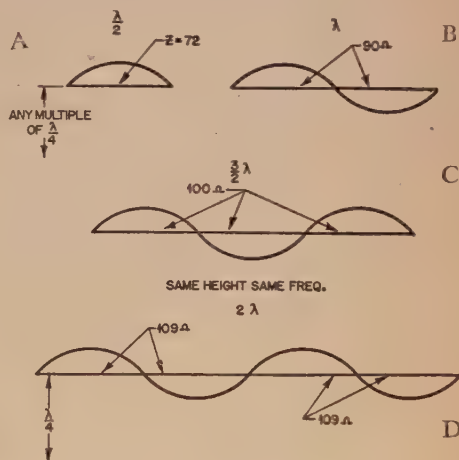

Fig 6.
Next, is Z at current loop vs. length of wire in wavelengths? Assume *fig. 6* (A) a $\frac{\lambda}{2}$ dipole at any $\frac{\lambda}{4}$ multiple in height. The Z is 72 ohms at the current loop. Assume a piece of wire at the same height a wavelength long (B). The Z at the current loops is no longer